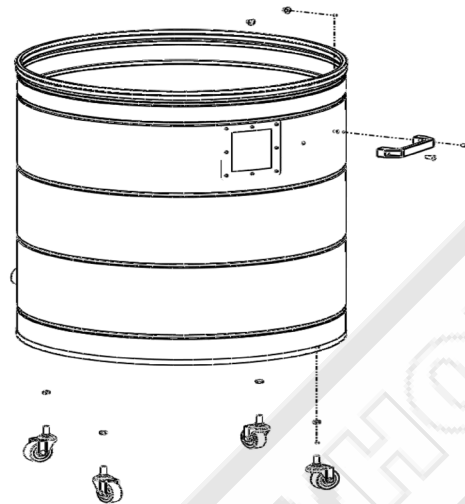

FIG. 4.12
12. Attach the (4) 2" swivel casters to the collection drum, using (1) 5 / 16" hex nut on each. Adjust the pre-installed flange nut and hex nut until the drum rolls evenly without rocking or wobbling, then tighten both nuts to secure each caster in place. Attach the collection drum handle with (2) phillips hd screws 1/4" x 5/8" and (2) acorn nuts 1/4". Insert the large plastic dust bag inside the collection drum, and fold the excess length of bag over top of collection drum. (Fig. 4.12)